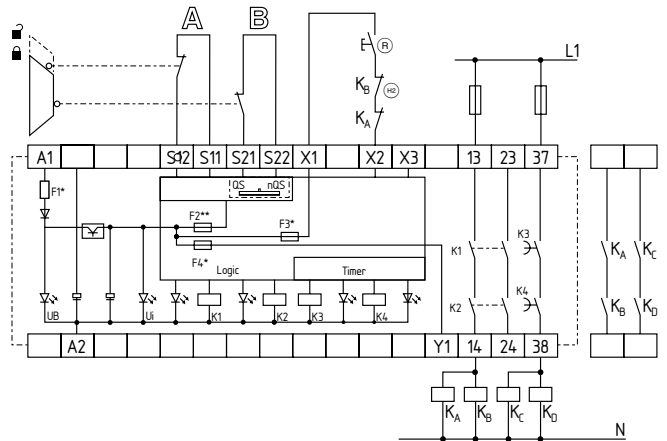

Fig. 8:
Dual-channel control, shown for a guard door monitor; with two contacts A and B, where at least one is a positive break contact; with external reset button (R) (see Fig. 8)